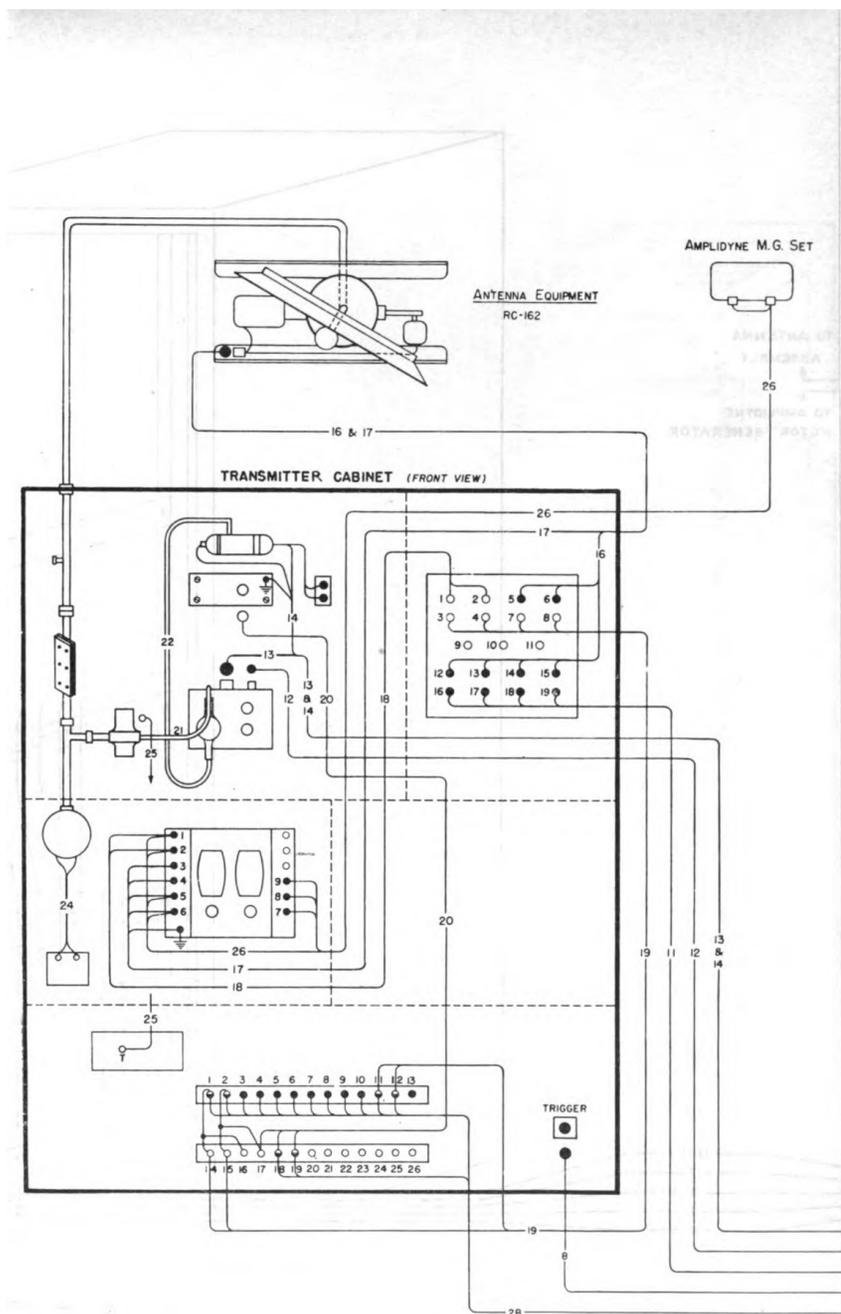

Figure 21. Cable
The electrical equipment of Radio Set SCR-582- (\*) is made up of a number of components which are arranged together and interconnected to form the set (fig. 20). As much as possible of the interconnecting cabling between components is permanently installed before shipment. The rest of the cabling must be completed at this time. Figure 21 is the general cabling diagram for the entire radio set. Figure 22 is the routing diagram showing the arrangement of interconnecting cables inside the control and transmitter cabinets. These cables are held tightly by clips, and the routing diagram must be followed in the cabling procedure. It shows all the cabling connections which now must be made, as well as some which are already in place when the equipment is shipped. In the terminal markings shown in figure 21, black circles indicate connections to be made on installation. In some cases the same terminal is used for two leads, one of which is permanently connected before shipment. In such cases the circle indicating the terminal tap is half solid and half empty.
Seven cables are found in Box No. 8, numbered to tie in with figures 21 and 22, as follows: 2, 8, 11, 12, 13 and 14, 16 and 17, and 23. Of the remaining numbered cables appearing in figure 21, those numbered 1, 4, 5, 6, 9, 15, 18, 19, 20, 21, 22, 24, and 25 are permanently connected at both ends before shipment. Those numbered 3, 7, 10, and 26 are permanently connected before shipment at one end only and must be connected at the other end at the time of installation.
c. In the following procedure for cabling the control cabinet, close attention must be paid to both the routing diagram (fig. 22) and the cabling diagram (fig. 21):
*b.* The following cabling in the transmitter cabinet is also to be inspected: (1) Cable 18, going from terminal taps 1 and 2 in the selenium rectifier panel to taps 1 and 2 in the strip on the left side of the amplidyne amplifier case.
(2) Cable 19, going from terminal taps 3, 4, 7, and 8 in the selenium rectifier panel to taps 14 and 15 in the lower one of the two long strips found at the front of the lowest part of the transmitter cabinet, and, through a second lead, to taps 11 and 12, in the upper one of the same two strips.
(3) Cable 20, going from an AN connector, on the support for the remote-control tuning motor of the local or beating oscillator, to taps 17, 18, and 19 in the lower one of the two long strips mentioned above.
(4) Cable 21, a section of small coaxial copper tubing, going from the transmit-receive box to the brass crystal mixer located on the face of the preamplifier housing. This cable joins to the upper connection on the crystal mixer.
(5) Cable 22, a flexible dielectric-filled cable, going from the klystron beating oscillator to the mixer.
(6) Cable 24, connecting the input leads of the transmitter tube to the high-voltage supply from the modulator.
(7) Cable 25, a red d-c lead connecting the transmit-receive box to a high-voltage source.
(8) The terminals of cables 24 and 25 are not shown in figure 21, but the cables themselves are shown and their presence can and should be checked at this stage of the installation.